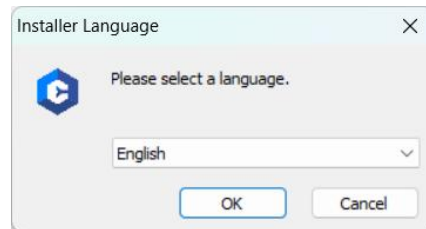

Figure 4-3 Select Language
1. Double click the 3DeVOK Studio.exe, select the language and click OK, as shown in Figure 4-3.